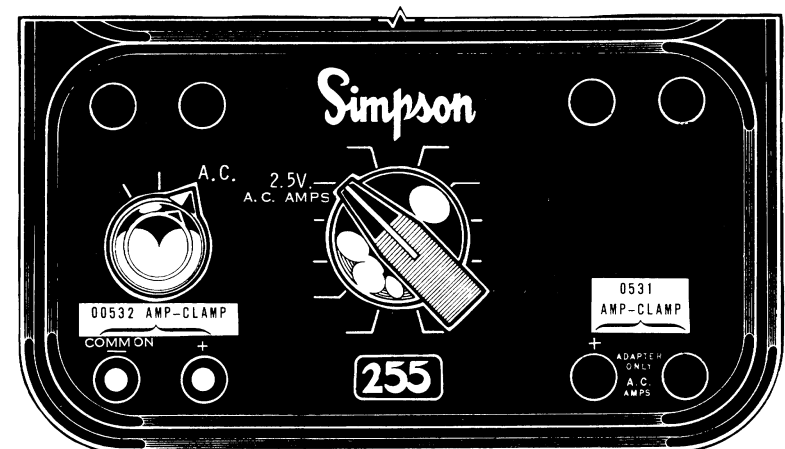

Figure 4-4. Jacks and Switch Positions for AC Amperes
- Set the function switch to AC (Figure 4-4).